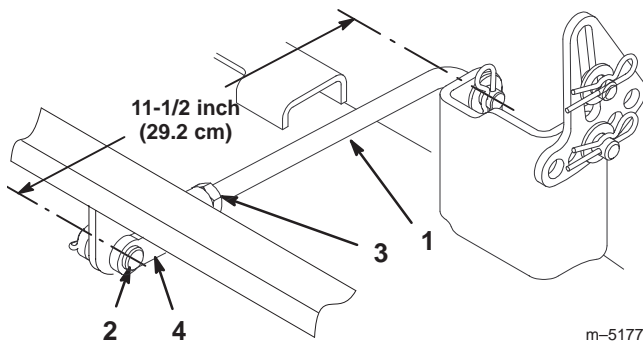

Figure 41
6. Measure the length of the rear trunion rod (Fig. 41). If the rod length is not 11-1/2 inch (29.2 cm), remove the clevis pin and cotter pin from the end of the rod (Fig. 41), loosen the jam nut, and turn the yoke until the 11-1/2 inch (29.3 cm) dimension is obtained. Then secure the yoke with the clevis pin and cotter pin. Repeat this procedure on the opposite side of the mower.
- When the front-to-rear blade slope is correct, tighten the jam nuts (Fig. 41 and 43).